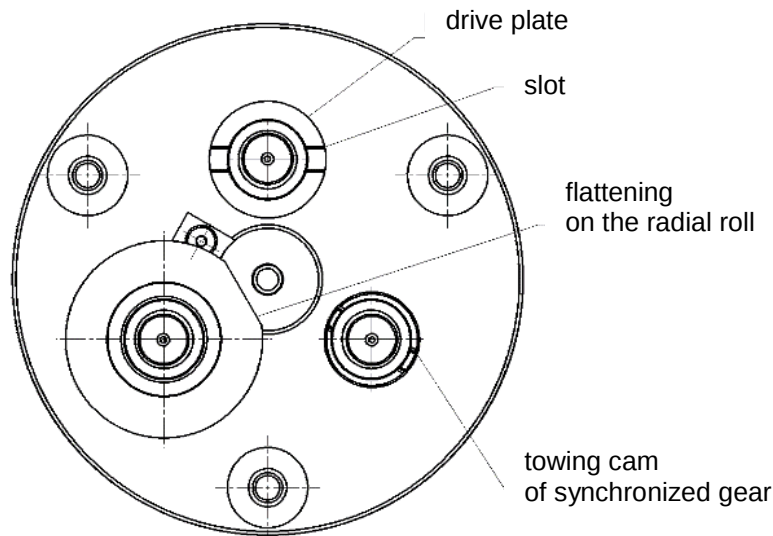

Figure 18: Tensioned radial rolling head EW (top view without front plate)
A tensioned rolling head can be recognized by the fact that either the driving noses of the synchronous gears (5) are aligned radially or the grooves of the driving discs (12) or the flattening of the rollers are aligned tangentially, see Figure 18.